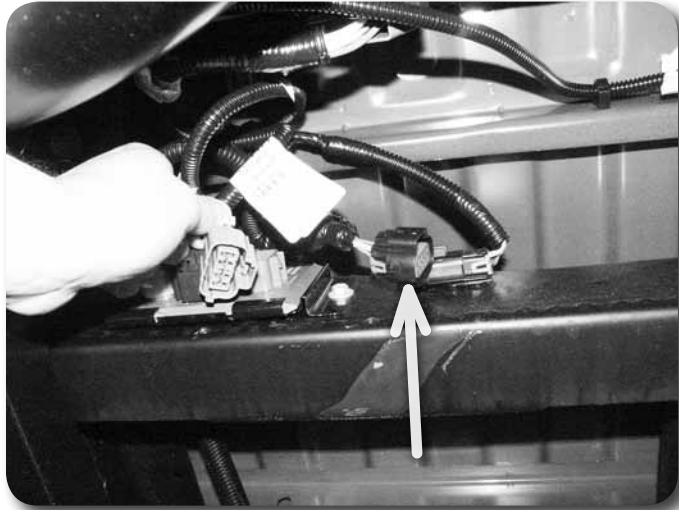

Figure 1
3. Locate the rear wire connector cluster on the rear, driver's side frame crossmember **Figure 1**. Disconnect the license plate light harness and back-up sensor harness (if equipped).